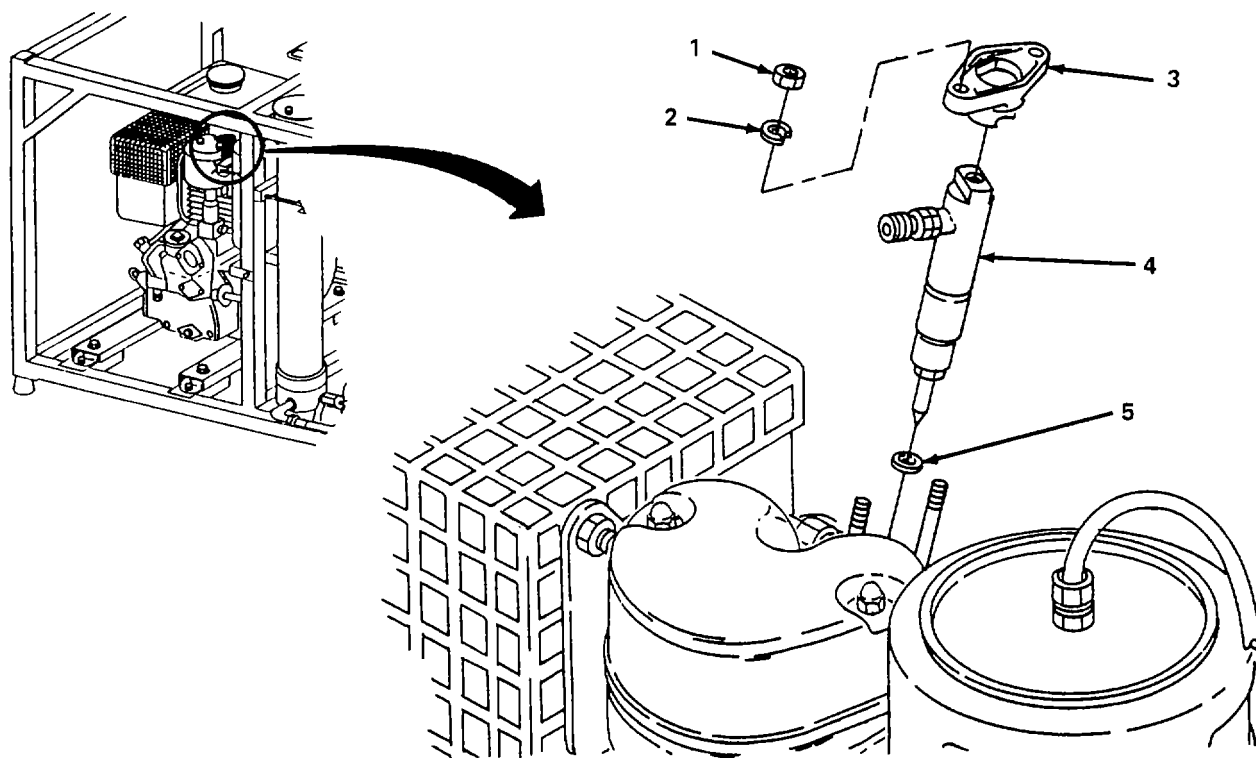

Figure 5-38. Fuel Injector, Replace.
- b. Replace. (figure 5-38)
- (1) Remove two nuts (1) and lockwashers (2) and remove injector clamp (3).